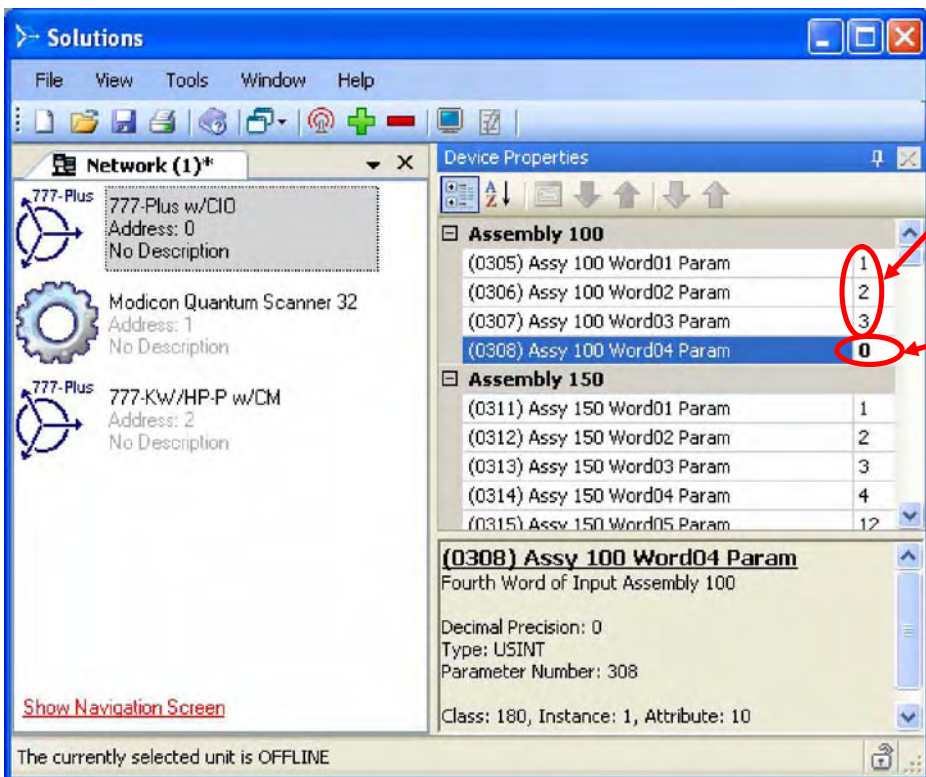

Figure 9-Faulted Unit Recovery
Step 6. The first time a DeviceNet network is commissioned all nodes will be at the same address and appear to a configuration tool as faulted devices. When a device is faulted, Solutions will show the dialog in Figure 9.